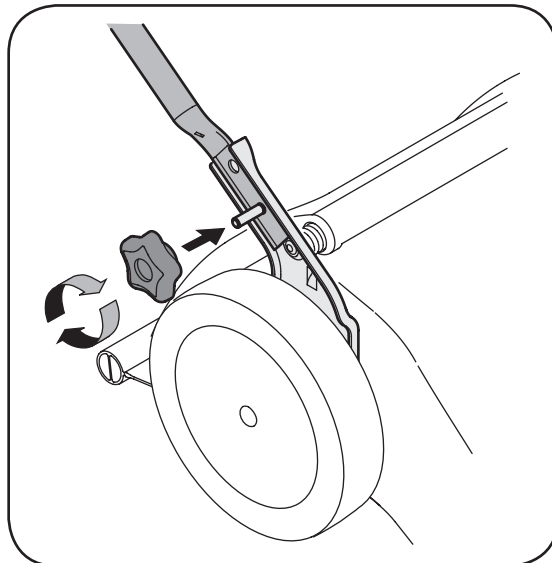

Figure 3-2: Secure handle to handle mounting brackets.
2. Tighten star knobs securing lower handle to handle brackets. See Figure 3-2. Make certain the lower handle is seated securely into the handle mounting brackets.